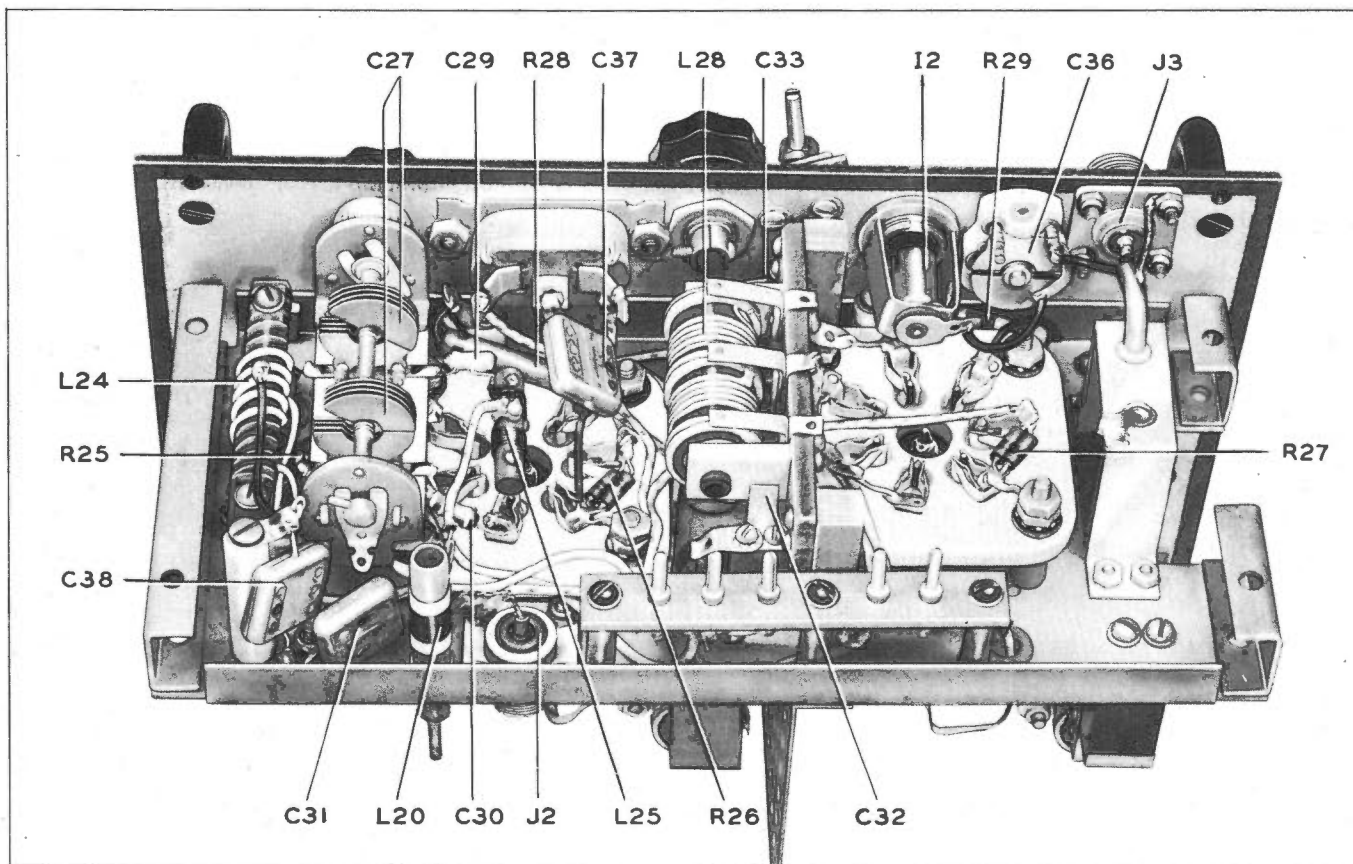

Figure 4-9. Radar Transmitter T-28/APT-1—Bottom View of Oscillator, Mixer, and Power Amplifier Section
(See figure 4-9.)
f. Capacitor C37 (see fig. 4-9) is used to by-pass r-f currents around the meter circuit to prevent possible burn-out of the meter.
(See fig. 4-9.)
b. The input is the band of frequencies obtained from the mixer stage and coupled to the grid circuit by capacitors C32 and C33. (See fig. 4-9.)
(1) A grid bias of 75 volts is applied when Tube JAN-832 is used and —45 volts when JAN 829B tube is used. The change in voltage is accomplished by changing the position of switch S7. In either case, the bias voltage is also determined by the position of the sliding tap of resistor R32. In case oscillations at undesirable frequencies occur in the power amplifier stage, a slight readjustment in the bias voltage may be required.
(2) Coil L28 is located beneath the chassis in front center between the mixer tube socket and the power amplifier tube socket.
(3) Coil L28 is tuned by the "AMP GRID" control.
(4) Resistor R30 is connected across coil L28 as a damping resistor to prevent undesirable oscillations which occur in the 70 to 90 megacycle band.